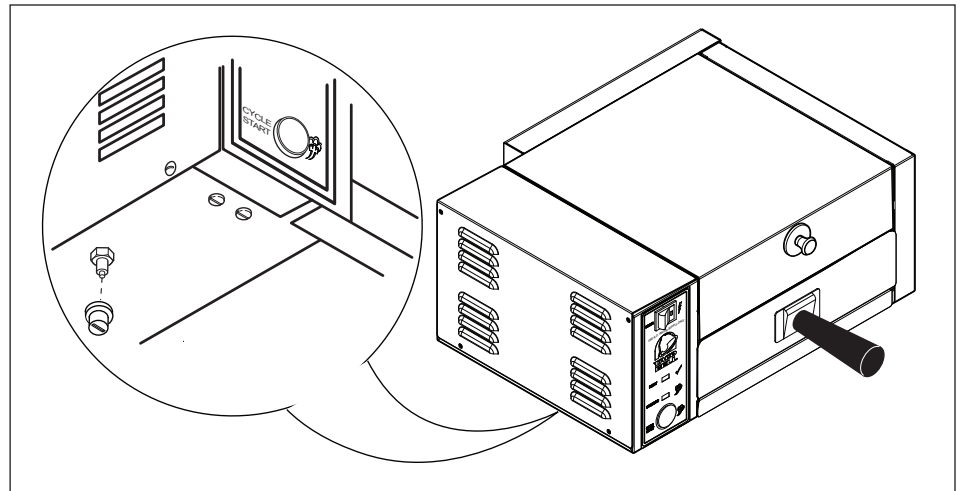

Figure 5. Cooking Procedure
1. With the unit positioned at the edge of its location surface (counter, table, etc.), slide the unit forward approximately 3" to expose the Water Volume Control on the bottom left side of the unit (Figure 5).